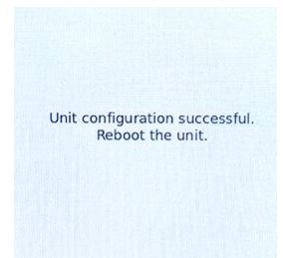

Figure 21
33. The controller displays **“Unit configuration successful. Reboot the unit.”** (see Figure 21). Power cycle the cabinet by switching OFF the power switch for five (5) seconds and switching back on.